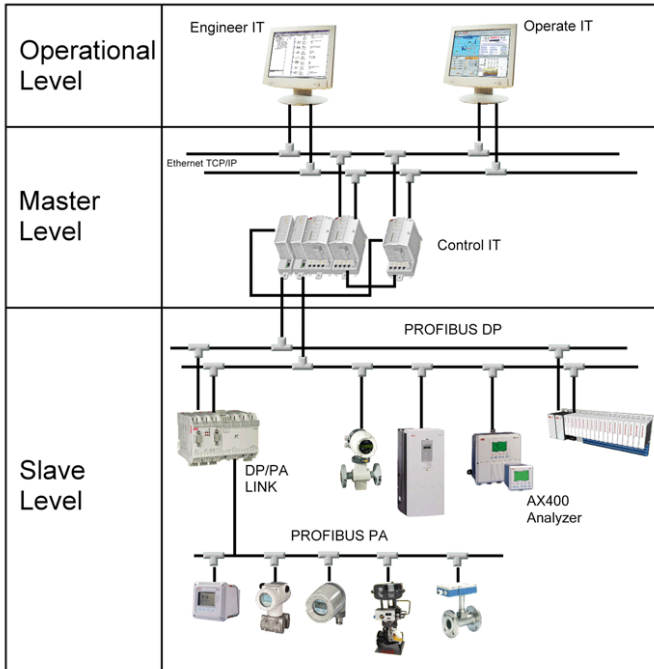

Fig. 2.1 Typical PROFIBUS Network
2.1 Installation Overview – Fig. 2.1